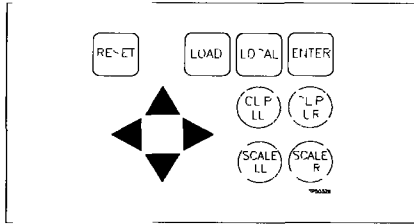

Figure 5 9 DMP 60 Control Panel
1. Press the control panel ENTER and SCALE UP keys (see Figure 5 9) This activates the DM/PL menu mode The plotter plots the DM/PL option select line